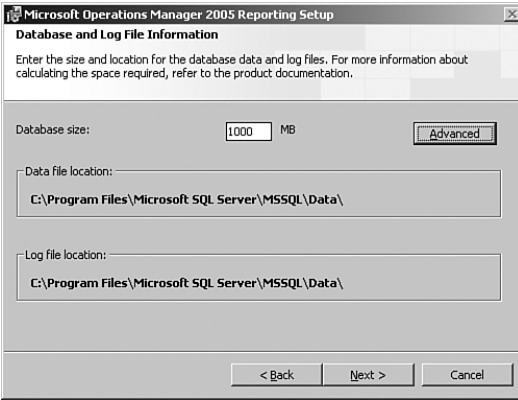

FIGURE 6.20 Specify database and log file information.
5. You now proceed to the Database and Log File Information screen, illustrated in Figure 6.20, where you enter the size and location for the data and log files to be used by MOM Reporting. The default size is 1,000MB.